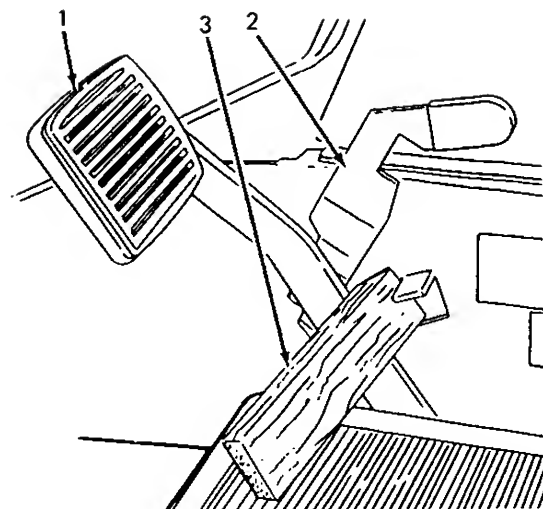

Figure 24
1. To check brake adjustment, place a 1/2 inch thick wood block between the single brake pedal and the brake pedal lock (see Figure 24.)